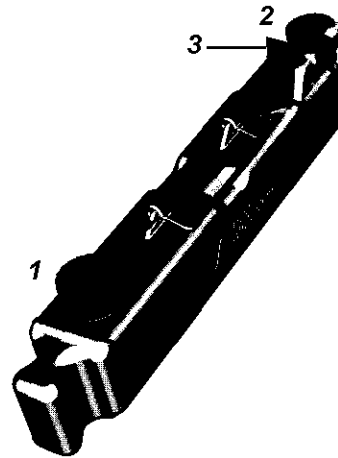

Figure 161: Bulk container showing (1) fill/empty cap; (2) liquid level sensor cap, and (3) connector
- For waste, open the lid (item 1 in Figure 161) and dispose of the waste in accordance with approved procedures at your site.